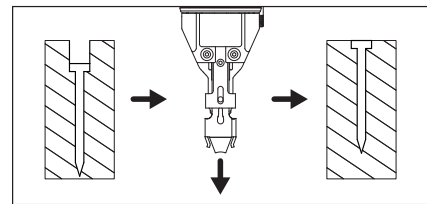

Figure 23
2. If nails are driven too deep into work surface, move the work contact element down (or away) from tool body (see Figure 23).